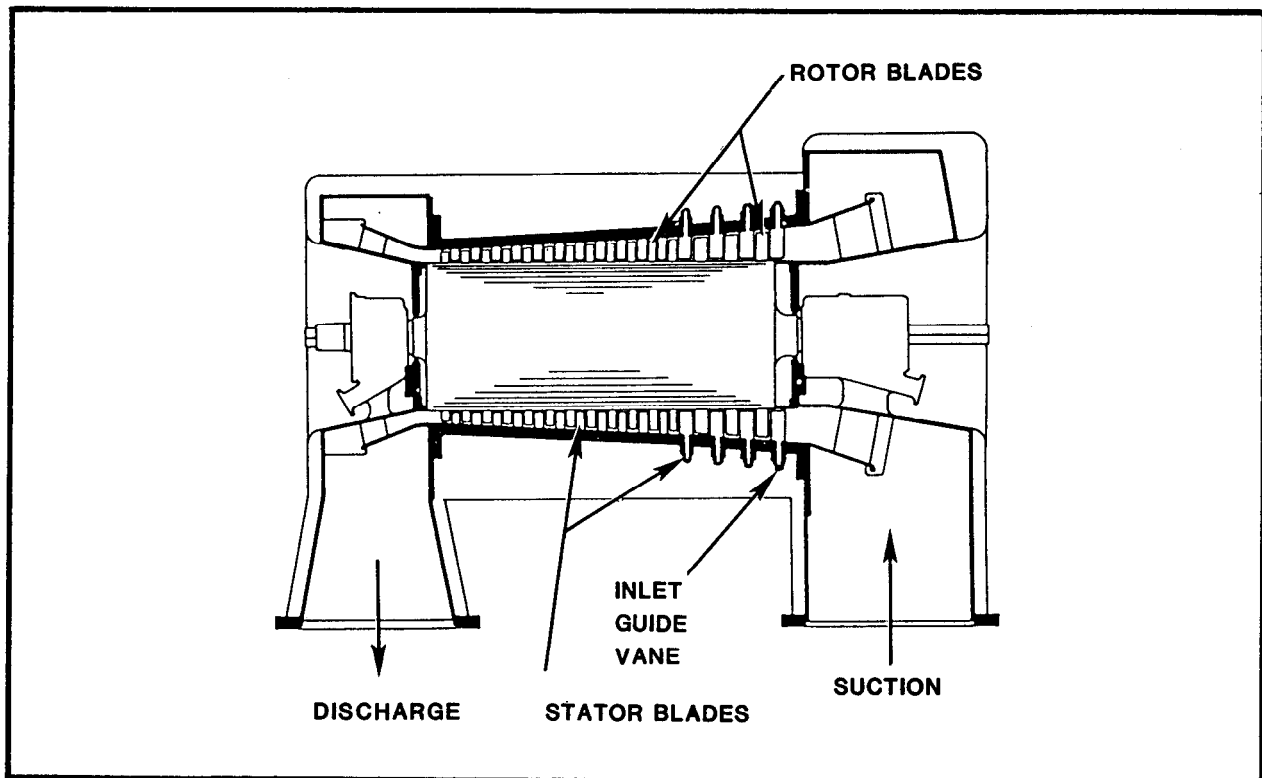

FIGURE 3-4. Axial Flow Compressor
**1.2 Axial Flow Compressor.** The major components of an axial flow compressor are: rotor with rows of blades, and a stator with rows of stationary blades (figures 3-4 and 3-5). The moving blades accelerate the air, and the stationary blades direct the flow of air into the next row of moving blades.